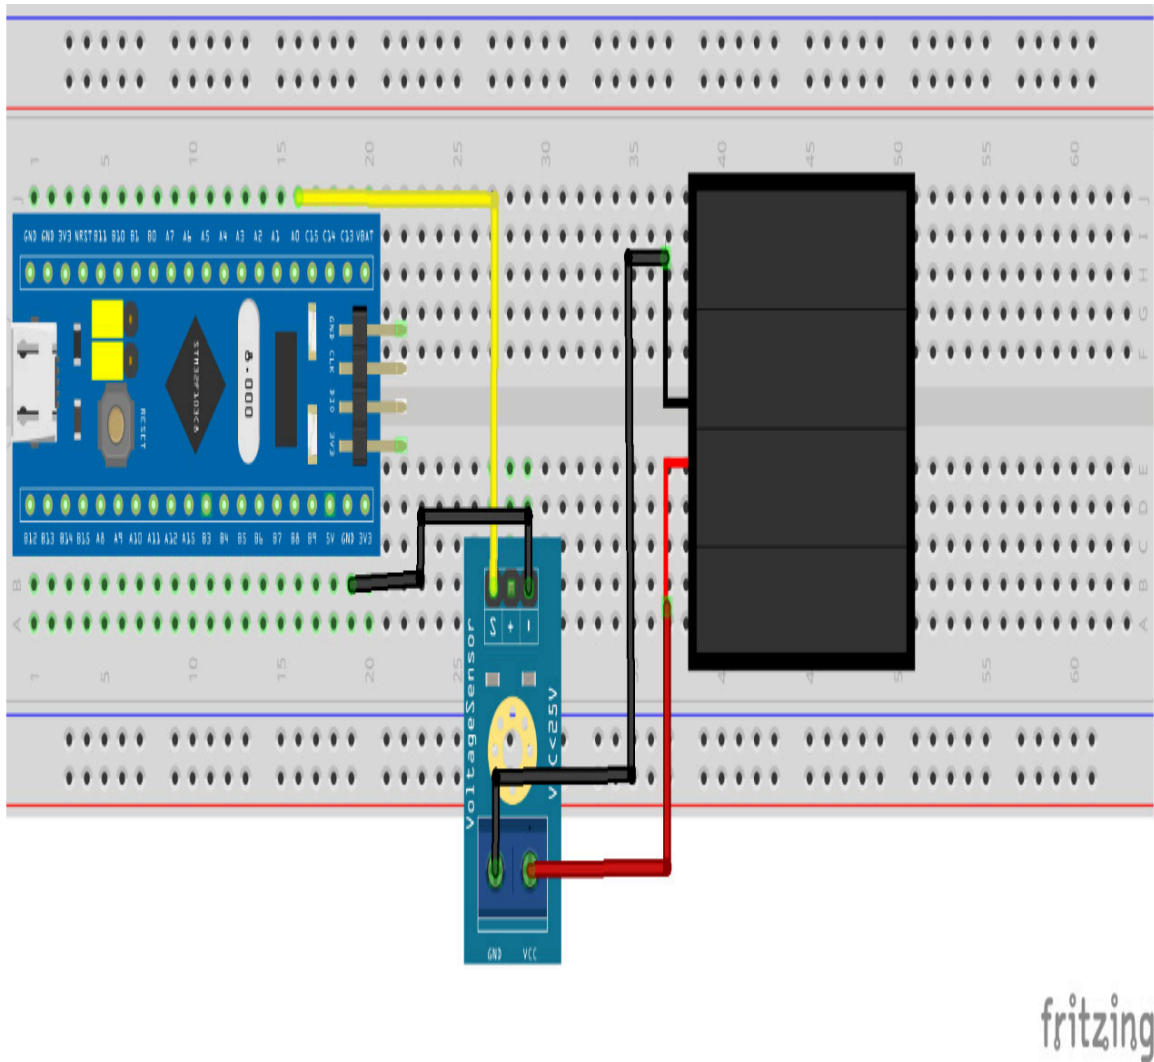

Figure 11.6: Circuit for voltage sensor connection
4. Finally, you will need a power connection to connect the solar panel to the board. Use the STLink to upload the scripts to the STM32 Blue Pill microcontroller board. *Figure 11.6* summarizes all the hardware connections: